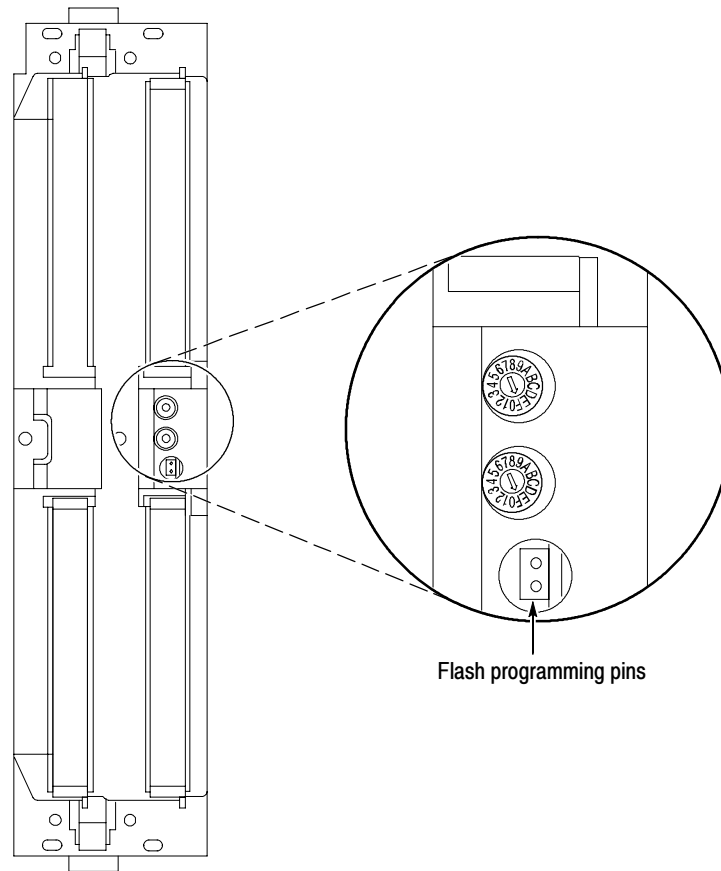

Figure 1: Flash programming pins
4. Refer to Figure 1 and locate the flash programming pins on the rear of each module.